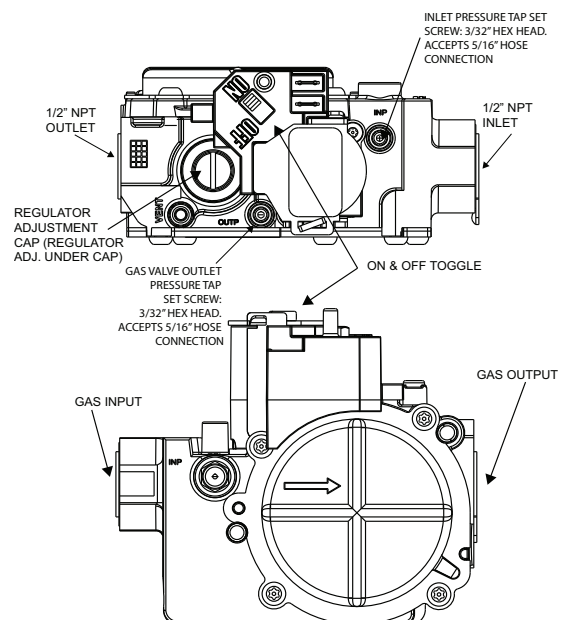

Fig. 59 – Gas Control Valve
- Loosen set screw on outlet tower pressure tap no more than one full turn with a 3/32 in. hex wrench. (see Fig. 59)